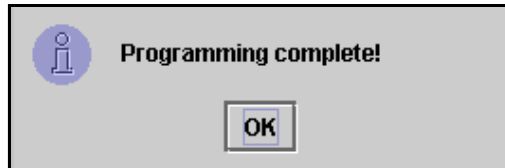

FIG. 89 Programming Complete Screen
- If the meter is successfully programmed, you are notified that programming is complete, as shown in FIG. 89. Click **OK**.
If you do not see the **Programming complete!** message (FIG. 89), do not continue to the next meter until you complete a programming cycle with the message appearing.
- Do not program another meter until you get the **Programming complete!** message shown in FIG. 89. If you program a meter and it appears to be successfully programmed at the meter but you didn't get the programming complete message at the PC, Graco recommends you reprogram the meter. This ensures that you do not get two meters programmed with duplicate parameters, which will cause unpredictable system behavior.